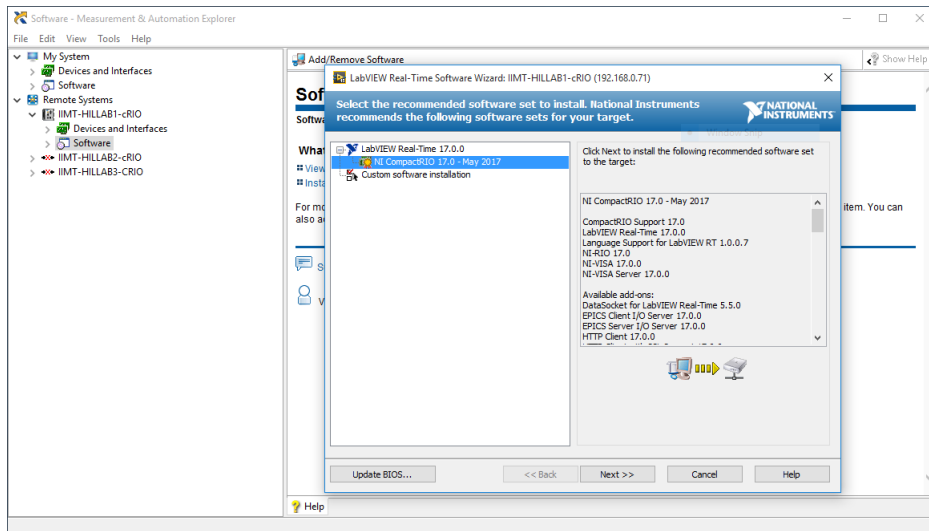

Figure 2.2: Install software on cRIO
5. When successfully formatted, install software. Expand the cRIO, right-click on Software and select Add/Remove Software. See Figure 2.2